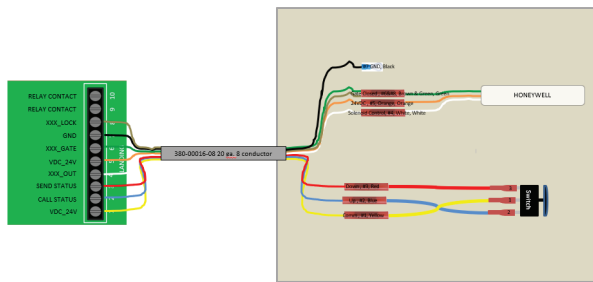

Figure 4-13
9. Connect the interlock wires and the gate call / send switch (if equipped). *See Figure 4-13.*